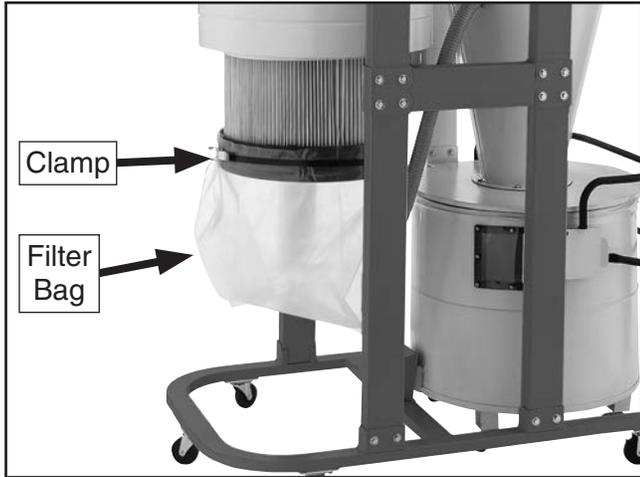

Figure 32. Filter bag installed.
33. With help from an assistant, place 19" x 39 $\frac{3}{8}$ " filter bag around bottom of canister filter and secure with clamp (see **Figure 32**).